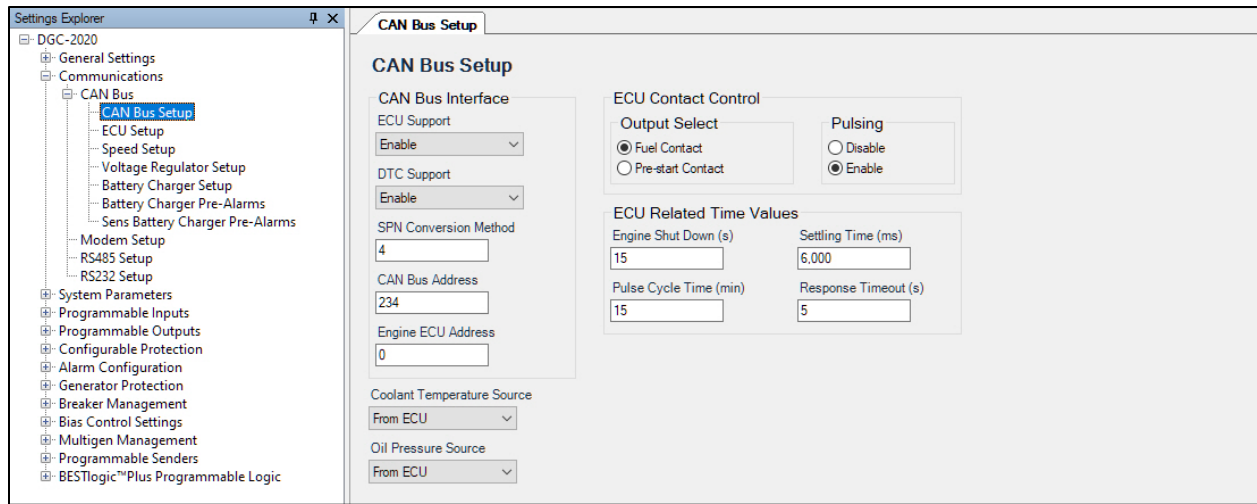

Figure 4. CAN Bus Setup
On the CAN Bus Setup page shown in Figure 4, ECU support needs to be enabled if the DGC-2020 will communicate with an engine ECU. DTC support must be enabled if the DGC-2020 will receive DTCs sent to it from the engine ECU. Four (4) is the most common SPN conversion method, but it should be changed if necessary. Some engine manufacturers specify a J1939 ECU address for transmitting requests to the engine ECU. These include RPM requests to run the engine at a specific speed, engine start requests, and engine stop requests. Engine control parameter transmit needs to be enabled if the controller will send control requests to the engine ECU. On the list shown in Table 1, the CAN Bus address is user selectable for some ECUs. The standard ECU is listed for ECU types that are not included in Table 1.
On the CAN Bus Setup page shown in Figure 4, there are settings for ECU Contact Control, ECU Related Time Values, Coolant Temperature Source, and Oil Pressure Source. The default settings are typical for an ECU controlled engine, but they can be changed if necessary.